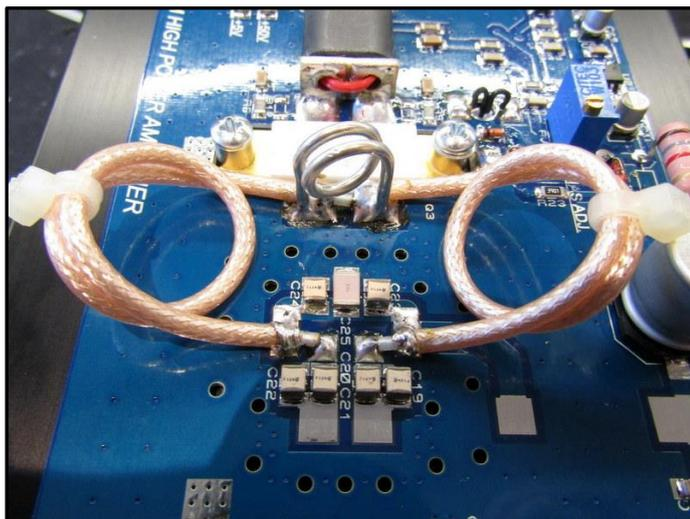

*Figure 7: L4 Winding detail.*
11. Identify the two 140mm sections of 25Ω coaxial cable (slightly stiffer of the two coax types). Strip 8mm of the insulation from one end of each piece and 5mm from the other. Fold back the earth braid on all ends and tin the braid with a soldering iron. Strip the inner cores by about 2mm and solder the 8mm stripped coax ends to the output pads of the transistor so that they cross over as in figure 7.